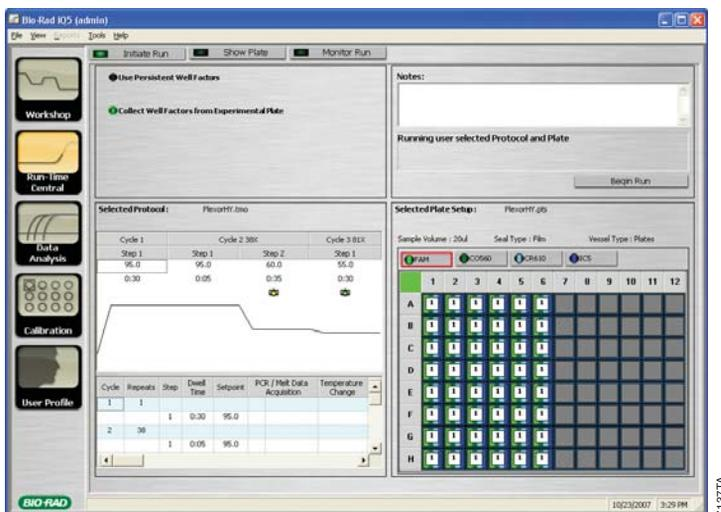

Figure 11. The iQ™5 Initiate Run window in Run-Time Central module.
- The Initiate Run window from the Run-Time Central module will open (Figure 11). Select the “Collect Well Factor from Experimental Plate” radio button (see Note at the end of this section).